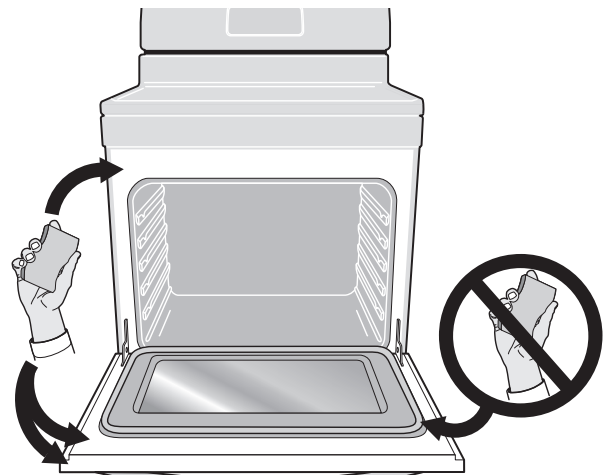

Fig. 32 Areas to clean and areas to avoid (gasket)
- Do not spray oven cleaners or oven protective coatings in or around any part of the oven interior. Clean any soil from the oven frame, the door liner outside the oven door gasket, and the small area at the front center of the oven bottom (Figure 32). These areas heat sufficiently to burn soil on. Clean using soap and water prior to starting Self Clean.